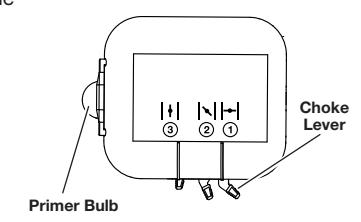

Fig. 9
- Fully press and release the primer bulb 10 times, slowly. Some amount of fuel should be visible in the primer bulb (Fig. 9). If fuel cannot be seen in the bulb, press and release the bulb until fuel is visible.
4. Move the choke lever to **Position 1** (Fig. 9).
6. Move the choke lever to **Position 2** (Fig. 9).
9. Continue to squeeze the trigger. Move the choke lever to **Position 3** (Fig. 9) and continue warming the engine for an additional 60 seconds. The unit may be used during this time.
- Do not squeeze the trigger.** Press and hold the electric starter or drill's ON (I) button for 2 seconds.
7. Move the choke lever to **Position 2** (Fig. 9).
- Do not squeeze the trigger.** Press and hold the electric starter or drill's ON (I) button for 2-second intervals until the unit starts.
11. Continue to squeeze the trigger. Move the choke lever to **Position 3** (Fig. 9) and continue warming the engine for an additional 60 seconds. The unit may be used during this time.